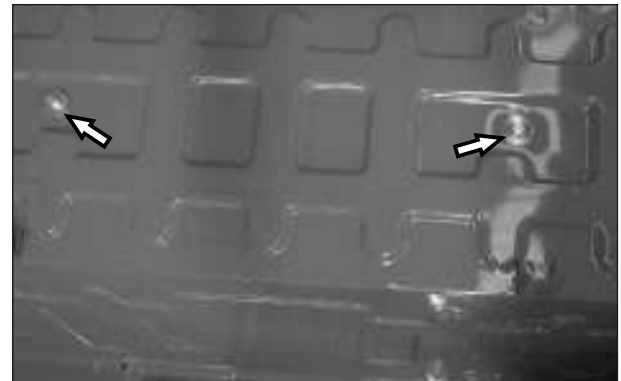

Fig. 5.105
- Loosen and remove 2 nos. Hexagonal screw (M8 x 1.25 x 25) from cabin mounting. (Fig. 5.105)